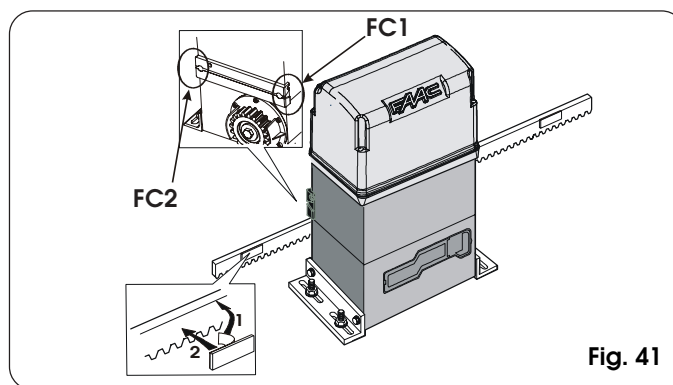
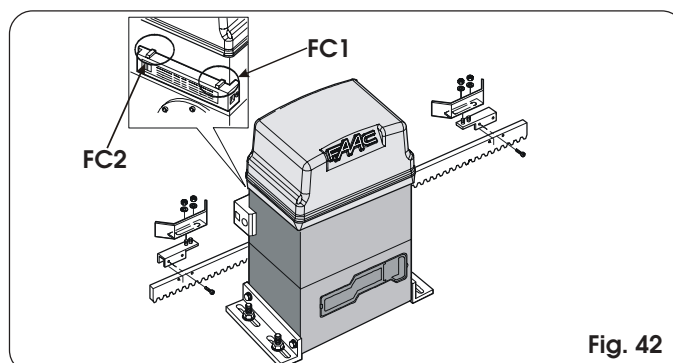

Fig. 41
Fig. 42
Operator 844 has a limit sensor switch which, by detecting the transit of a reference applied to the rack, commands the gate motor to stop. The device can be MLS (fig. 41) or inductive (fig. 42).
- 10) Clean the rack on its fitting points, remove the film on the adhesive parts of the magnets (fig. 41 ref. 1) and re-position the magnets with the adhesive strip in contact with the rack (fig. 41 ref. 2).
- 1) Assemble the limit-switch by centring the plate with respect to threaded pins of the support (Fig. 42).